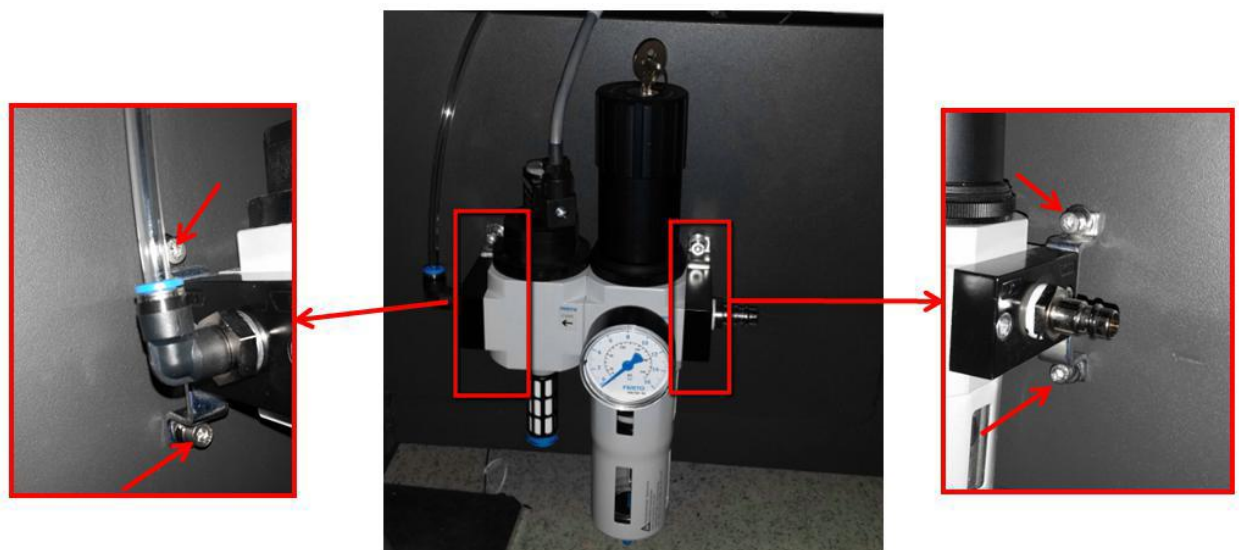

Figure 12 Air Pressure Regulator Assembly
4. Assemble Air Pressure Regulator at base frame by tighten 4 x Screws. May refer to below Figure 12.